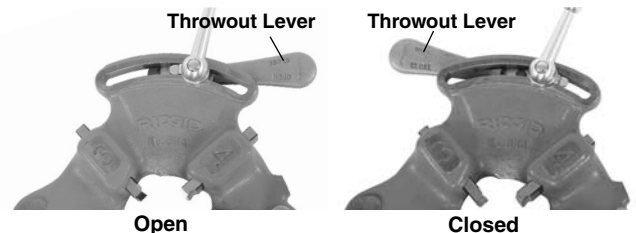

Figure 2 – Open/Closed Lever Position
2. Move throwout lever to OPEN position (Figure 2).